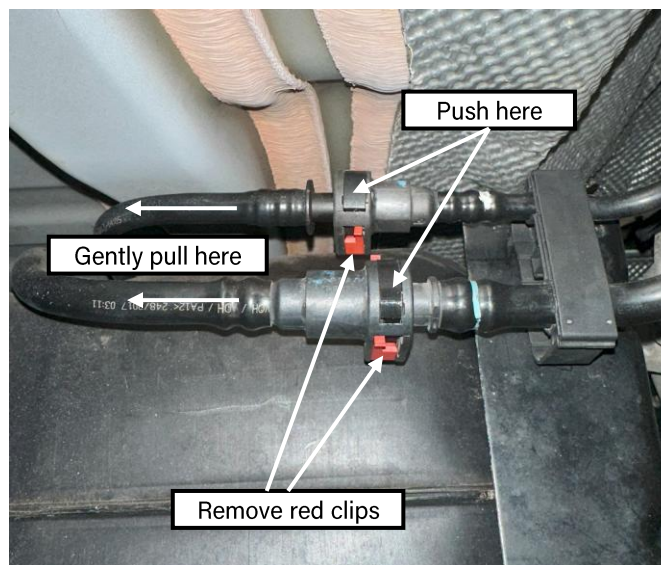

Figure 11: Front of tank connections
- ❑ Remove the two plastic red retaining clips from both lines pictured below (Figure 11)